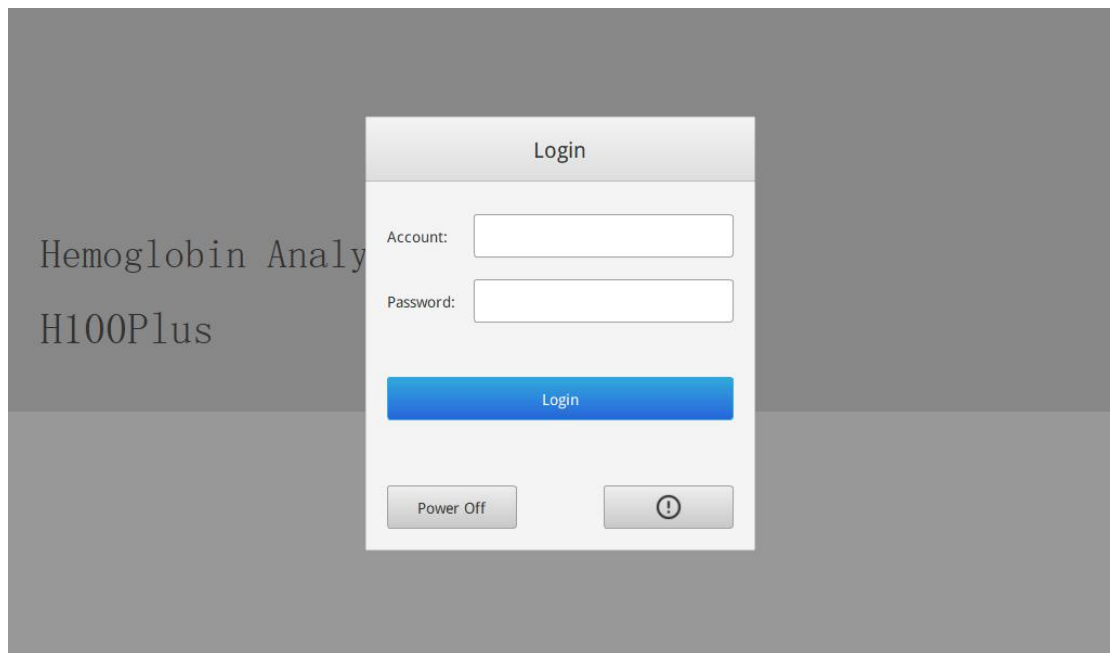

Fig. 5-1 View of Login Interface after powered on
- 1) Turn on the main power switch, the Login interface will show as **Fig 5-1**.